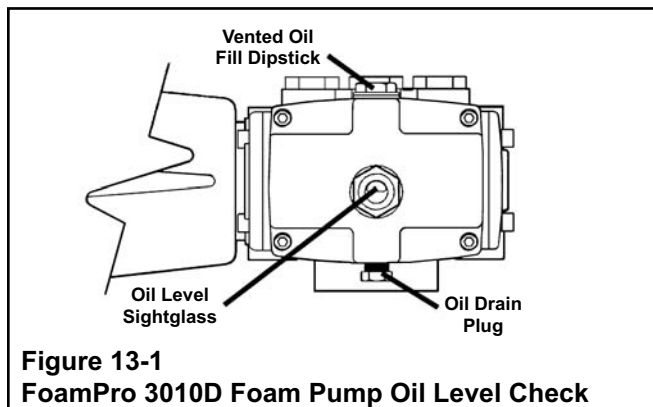

Figure 13-1
6. **Monthly:** Check crankcase oil level on the electric driven foam pumps and refill as necessary with SAE 30 weight non-detergent oil (See Figure 13-1).